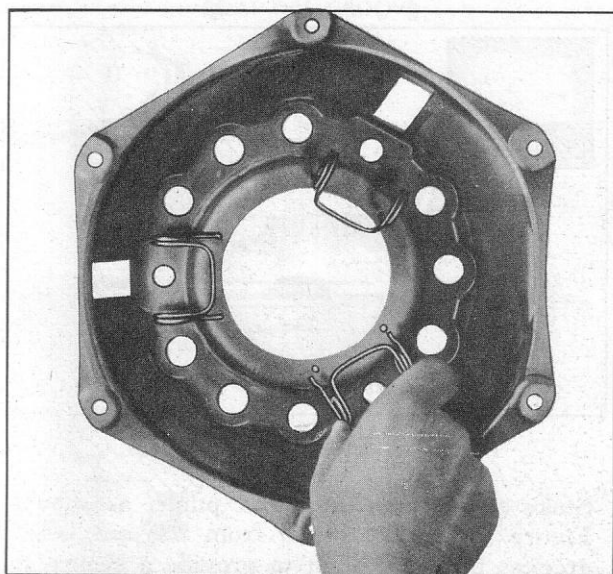

Fig. 16—Installing Anti-Rattle Spring
7. Assemble anti-rattle springs in cover as shown in Figure 16. The spring to the left is in operating position.